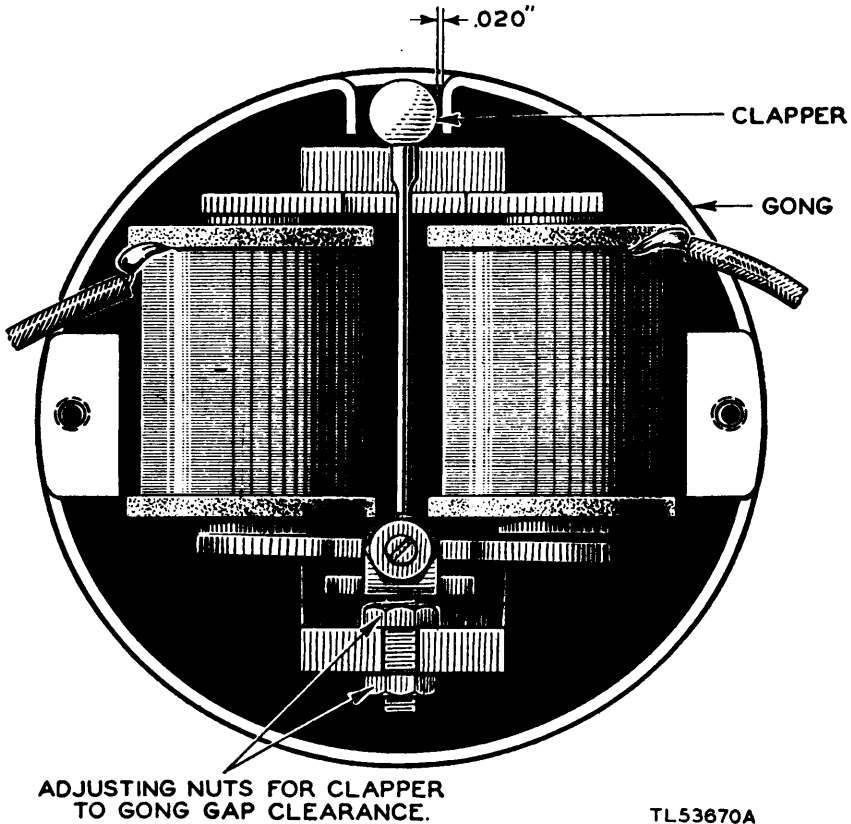

Figure 33. Ringer MC-131
a. ELIMINATION OF MAGNETIC LEAKAGE. (1) If clapper and gong are both made of steel, either may be replaced with one made of brass from stock or a discarded set.
(2) When neither a brass clapper or a brass gong is available, the travel of the armature may be adjusted so that there will be clearance of 0.020 to 0.025 inch between clapper and the nearest gong projection when the armature is against the pole piece, as indicated on figure 33.
b. CLEANING. (1) Keep the ringer free from dirt, grease, corrosion, and extraneous matter, particularly between the core ends, armature stop pins, and pivots of the armature assembly. If ringer is mounted in telephone, remove mounting screws so that ringer will be accessible for cleaning. Brush off ringer with a suitable brush and blow out with compressed air.
nut and screw. Adjust pivot, retighten nut, and check for bind. Adjust armature travel as follows (fig. 33):